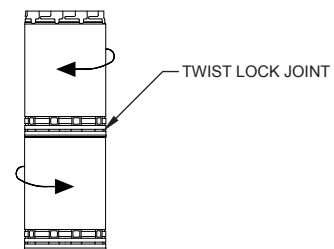

FIG. 3a
6. Install Temp Guard chimney sections starting at the TGCSP. Secure the sections by pushing together and twisting until stop-locked (See **FIG. 3a**). Additional chimney sections may be added to maximum height of 60 feet. 14", 16" and 18" are installed flange to flange, as illustrated on page 6. At each additional ceiling, a firestop (TGFS) is required. Insert the TGFS into the joist area prepared in step 5. Continue this process for each floor level until the area above the attic.